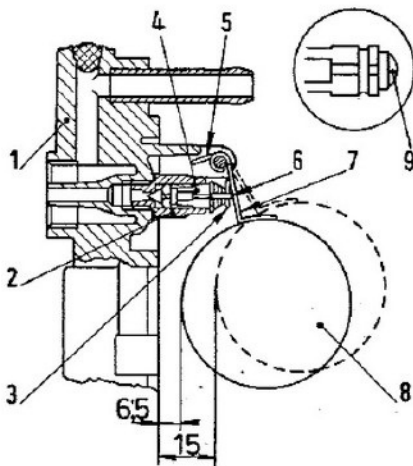

Fig. 77. - Float level setting diagram.
- Make sure that the weight of float (8, fig. 77) is the correct one (18 grams), that float is free on its hinge pin and is neither leaky nor dented.
- Make sure that needle valve (2) is tightly screwed in its housing and that ball (9) of the dashpot, incorporated in needle (4), is not jammed.
- Hold the carburetor cover (1) vertically as shown, otherwise the weight of float (8) might lower the ball (9) fitted on needle (4).